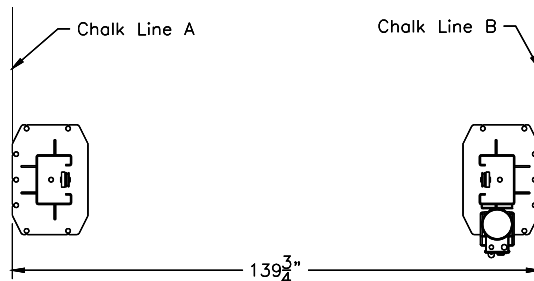

Fig. 1 – Column Layout
| See Figure 1 | EELR738A | EELR738A w/ 2 Ft. Ext. Kit |
- Using the Overall Width (C) Dimension from **Fig. 1**, chalk two parallel lines on the floor within 1/8" tolerance. Erect both column assemblies. Align the base plate edges to the chalk lines.
- 6) Recheck "Inside of Columns" dimension, **Fig. 1**. Drill the anchor holes using the base plate as a template. Drill through the floor if possible or to a depth of 5 inches minimum.